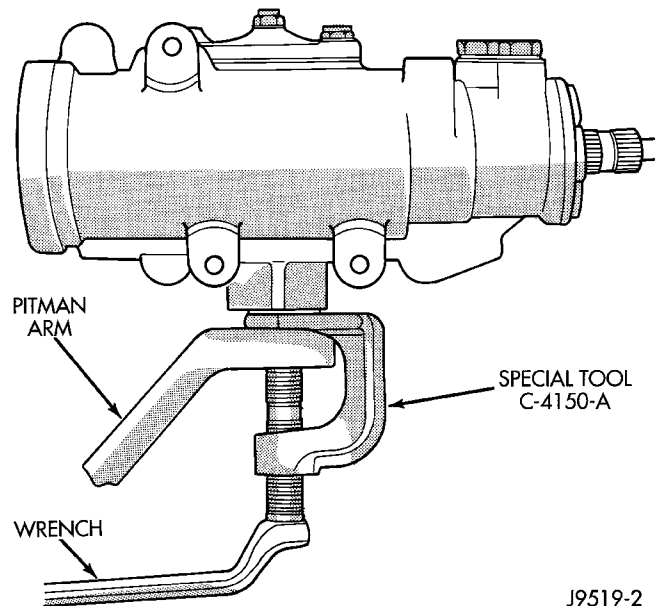

Fig. 3 Pitman Arm Removal
(4) Remove pitman arm from gear with Puller C-4150A (Fig. 3).